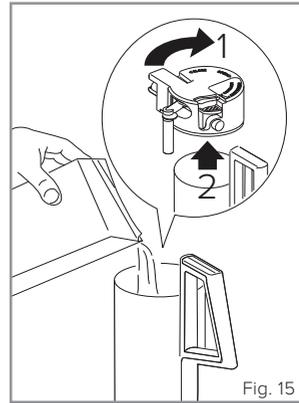

Fig. 15
1. Select the taste of coffee you want for your cappuccino by pressing the 'Coffee strength' touch key (6)
2. Remove the lid of the milk container and pour roughly 100ml of milk for each cappuccino to be prepared (Fig. 15). Do not exceed the MAX level (corresponding to about 750ml) marked on the container.